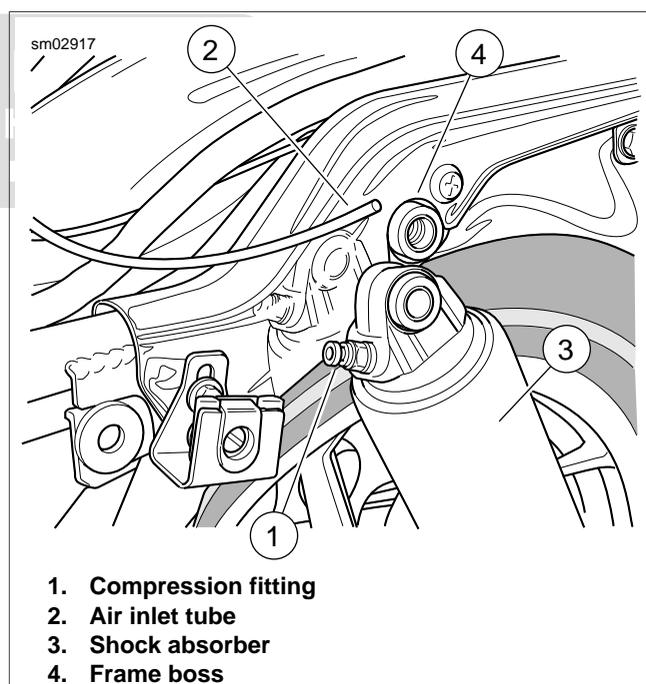

Figure 2-76. Remove Upper Shock Mounting Bolt (Left Side View)
6. Remove the upper shock mounting bolt with lockwasher and flat washer. See lower frame of Figure 2-76.